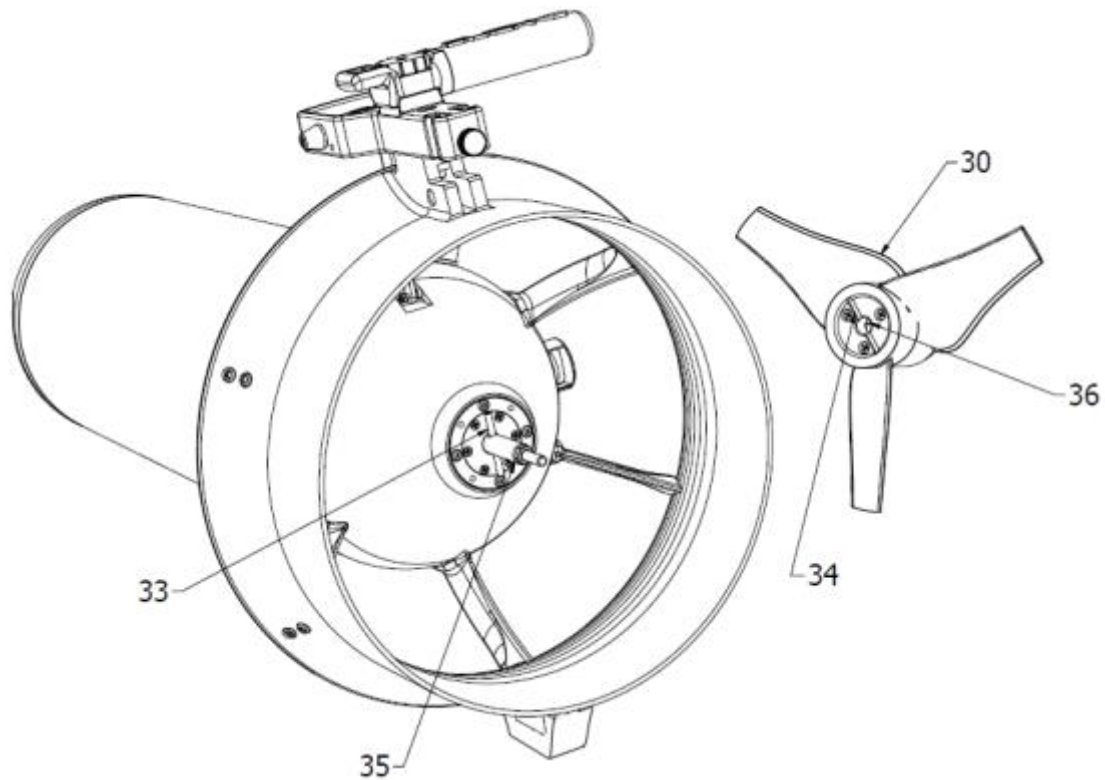

Fig.10 - Insertion of the propeller
Insert the motor shaft of the Scooter (35 - Fig.10) in the hole of the propeller (36), turn the propeller (clockwise) until the pin (33) matches the seat (34) propeller. When you hear a click, the propeller will stop turning. Continue by turning (CLOCKWISE) the switch (6) with the finger only, WITHOUT FORCING.